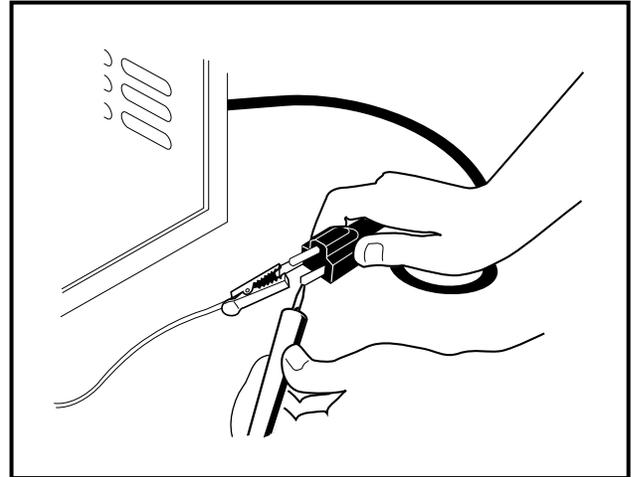

Figure 14-12 Test AC Cord
- 5.3. With relay bypassed, there should be continuity across the AC cord blades (**Figure 14-12, Page 14-13**).